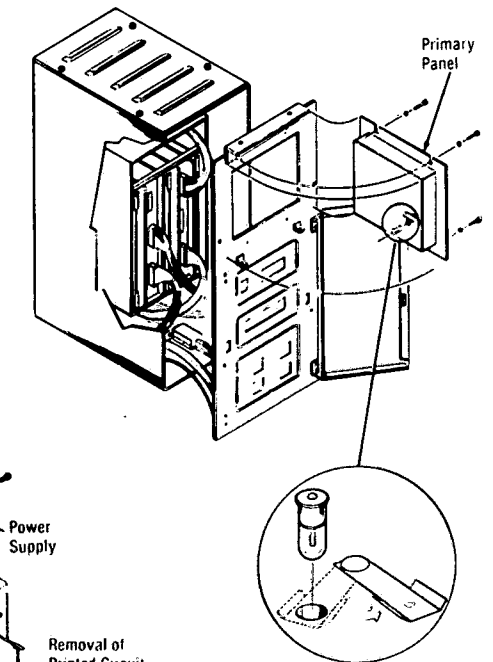

Figure 8-14. REMOVAL OF PRIMARY PANEL.
2. The primary panel is held in place by four screws. Remove those if servicing is necessary. See Figure 8-14.
3. The bulbs in the primary panels are removed by moving the retainer aside and lifting out the bulb, as shown in Figure 8-14.